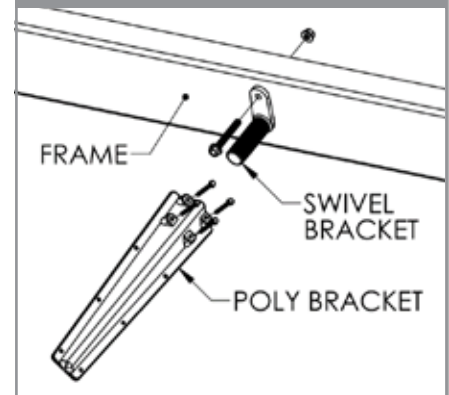

FIGURE 8
- A. Place four 5/16" x 3" bolts through the (10004592) poly bracket and the (10001485) backing block to clamp the (10001472) swivel. (See Figure 8)